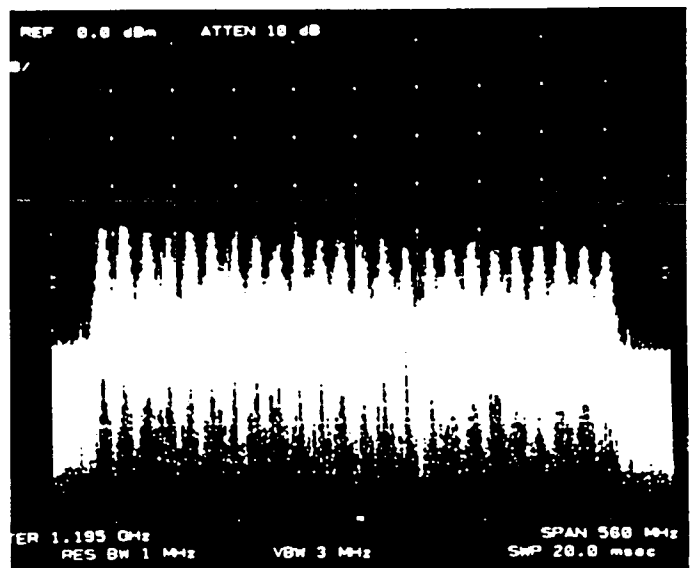
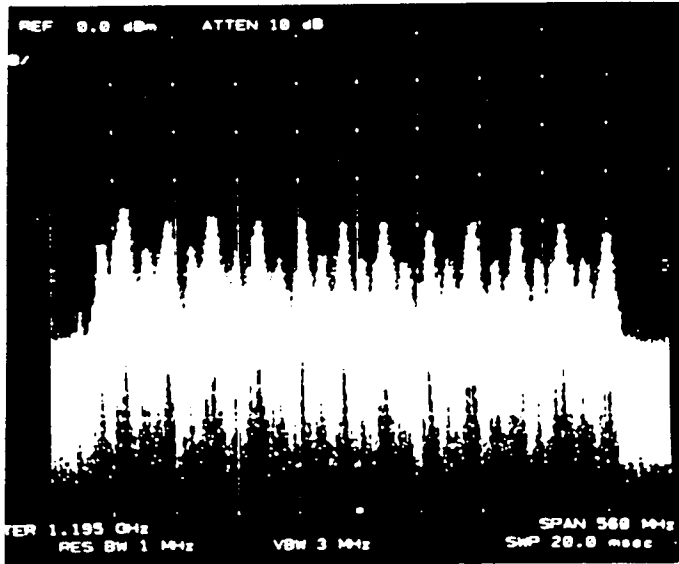

Figure 4. Polarization at 45° from Optimum Setting
Figure 5. Maximizing Odd Transponders
2.8 Rotate the feed assembly clockwise until 24 transponder signals are noted and of approximately equal amplitude as shown in Figure 4. Note: It is more accurate and visually easier to minimize the alternate set of transponder signals rather than maximizing the transponder set of interest.
2.9 With all 24 transponder signals of approximately equal amplitude appearing on the spectrum analyzer screen as shown in Figure 4 determine the specific antenna system and satellite parameters noted in paragraph 2.8. Rotate the feed assembly as required until the appropriate (odd or even) transponder signals are maximized. Figure 5 illustrates partial minimizing of the alternate transponder signals.